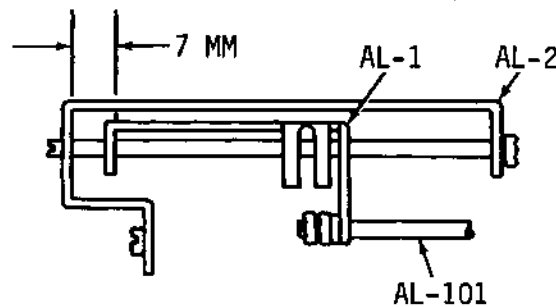

Figure 5-13. LOCATING DIMENSION FOR RIBBON FEED RACK
- (1) Move ribbon feed bar (AL-101) by hand so that rack (AL-1) can be adjusted in next step (2).
- (2) Maintain 7 mm (0.27-inch) between ribbon feed rack (AL-1) and guide rack (AL-2). (See Fig. 5-13)